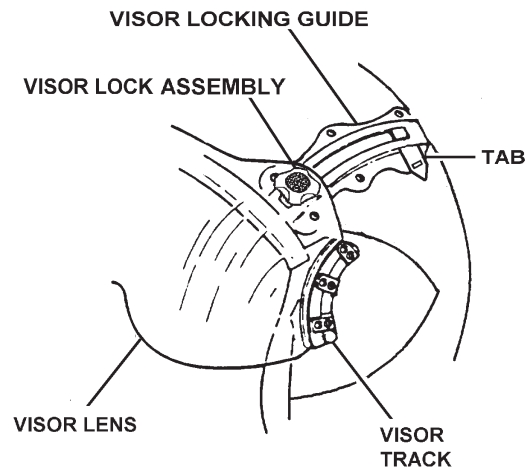

Figure 3-18. Visor Assembly
- a. Referring to Figure 3-18, remove the visor lock assembly by unsnapping the tab on the visor locking guide, sliding the tab out as far as possible, sliding the visor lock assembly all the way back to the tab opening, and rotating the lock until the bottom key aligns with the slot. Lift the lock out.